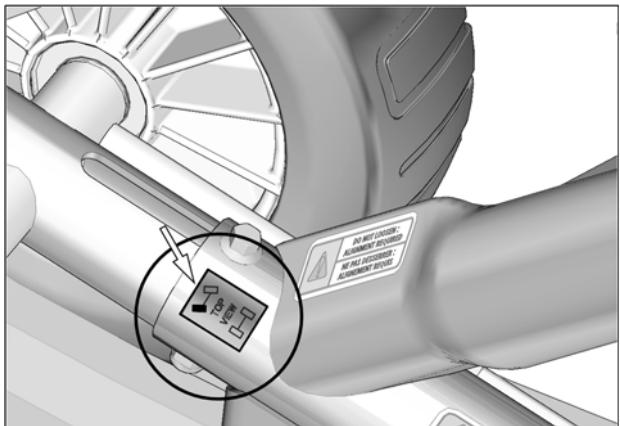

Fig. 2
- Identify the mounting position of each Track System undercarriage unit; the position is indicated on a small sticker affixed on the undercarriage frame. See Fig. 2